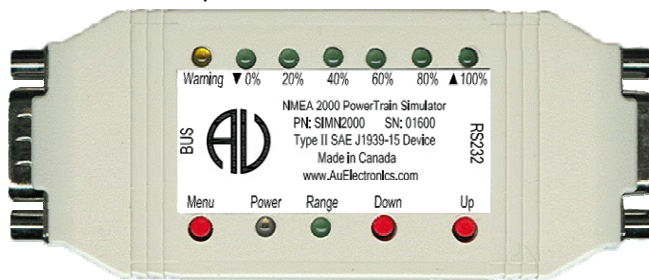
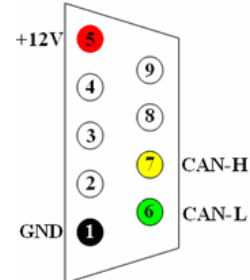

Figure 1-1 Au NMEA 2000 PowerTrain Simulator
Figure 1-2 BUS Side DB9 male connector
Au NMEA 2000 PowerTrain Simulator (Figure 1-1), a family of well designed devices, are capable of simulating majority of NMEA 2000 PowerTrain signals on a NMEA 2000 network. They can be connected to NMEA 2000 network at the 9 pin "BUS" connector. The pin out of the DB9 male "BUS" interface is illustrated in Figure 1-2.
- **1 DB9 Male "BUS" Interface** (Figure 1-2):